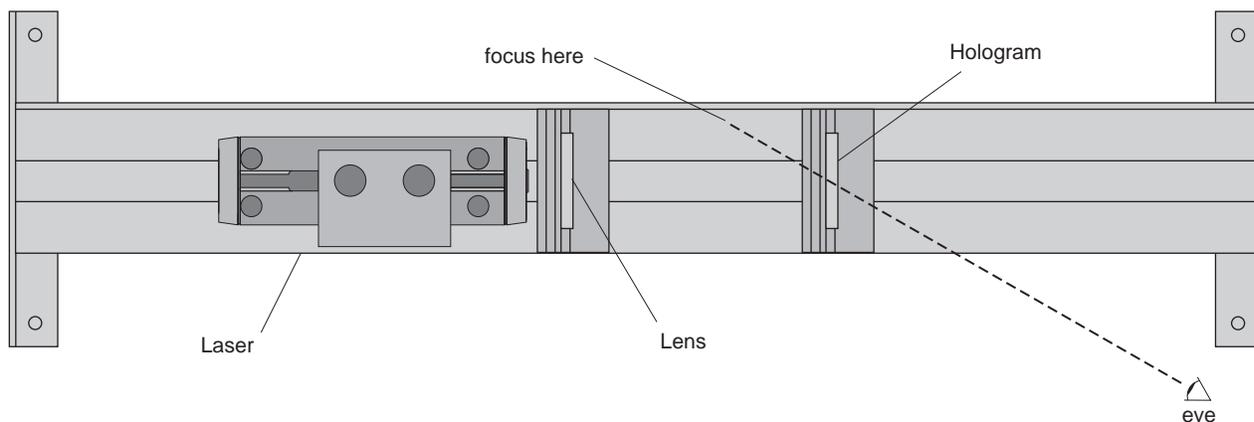

Figure 13.1: Experiment Setup
- ① Position the laser at the left of the optical bench and align the beam.
- ② Attach the -22 mm. F.L. lens to the front of the laser
- ③ Attach the hologram to a component carrier and position on the hologram.
- ④ Now look through the hologram towards the laser with your eyes off the central axis of the beam so that you don't look directly into the laser beam. Focus on a point several centimeters behind the hologram and observe the images. Move your head from side to side to observe the parallax effects and hence verify that the image is three-dimensional. (See Figure 13.1)